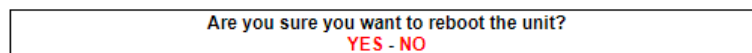

Figure 62. Configurator GUI (unit reboot dialog)
- The unit reboot dialog will be shown (Figure 62 (page 139)).